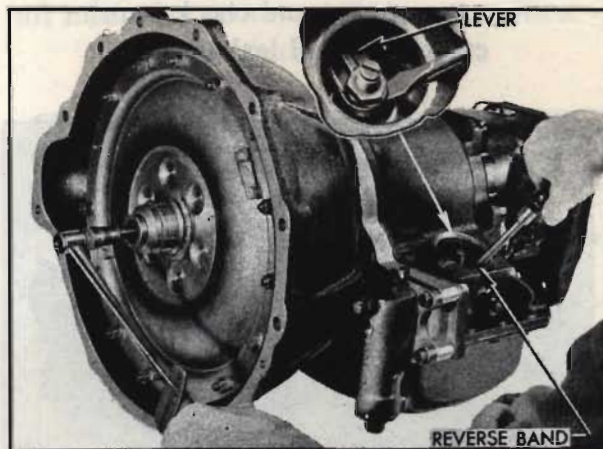

Fig. 43. Tightening set screw
19. Remove the reverse band adjustment cover. Move the shift lever to the Park position. Using a screw driver, pry up on the reverse band operating lever to lock the input shaft. Using a torque wrench, tighten the socket set screw to 25-30 ft.-lbs. torque (Fig. 43).